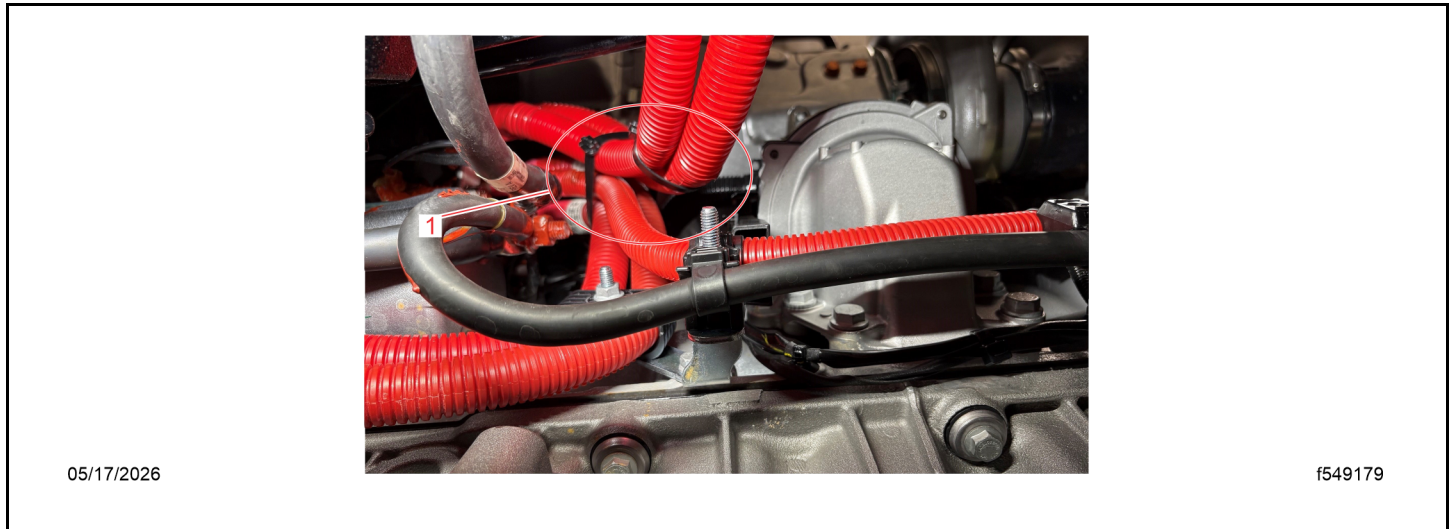

Fig 8, Securing the Cables
25. Route the starter cable next to the other heavy positive cable(s) from the starter to the lower frame rail support bracket. See Fig. Fig. 8.